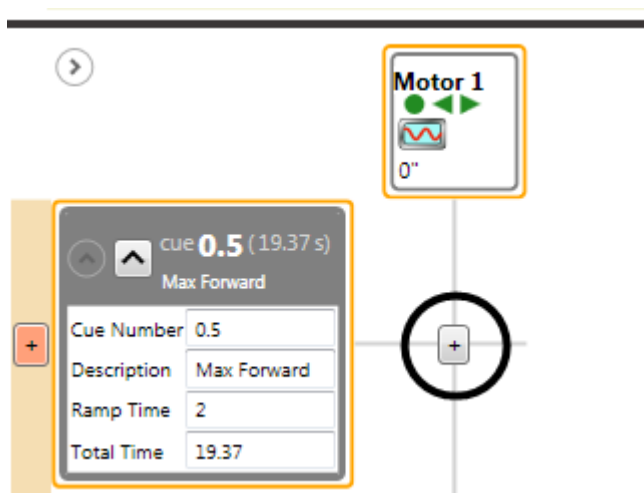

Figure 43
3. Add a movement for **Motor 1** in **Cue .5** by pressing the "+" button in the **Cue Grid** (Figure 43).